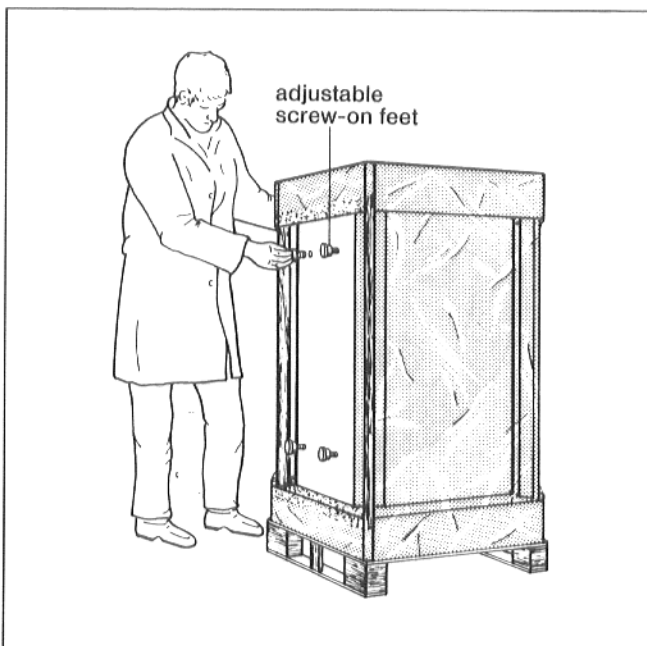

Fig. 16
- Screw in 4 adjustable screw-on feet (packed with the boiler as an accessory) into the base of the storage tank to 3/8 – 5/8 in. (Fig. 16).